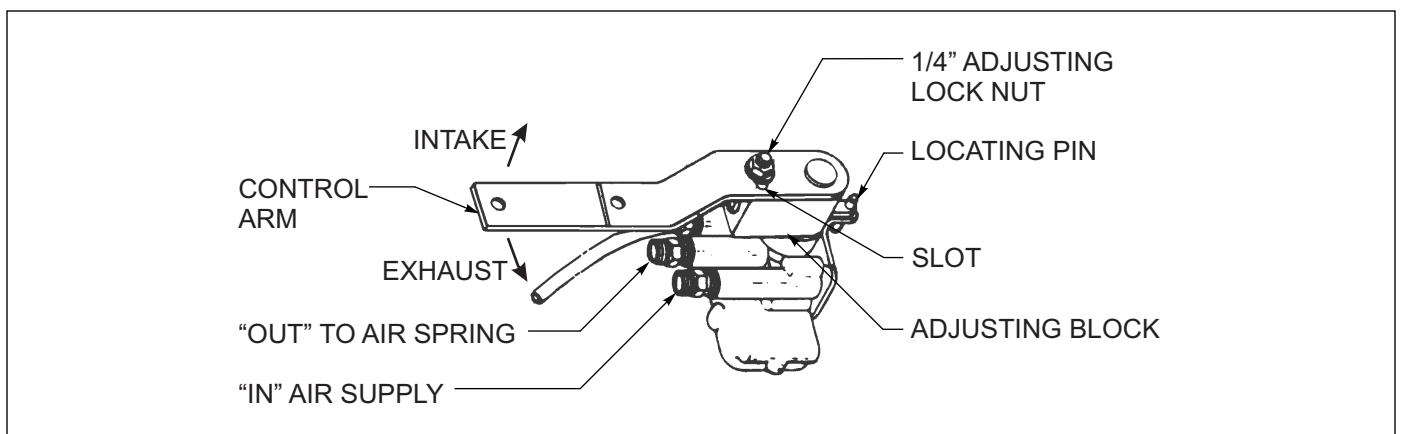

Figure 4-4: Air Ride Height Adjustment
2. Disconnect linkage at the control arm and raise control arm to the "up" position, raising the trailer until a block can be placed between axle tube and undercarriage frame (See Figure 4-4.)
6. Loosen the 1/4" adjusting lock nut located on the adjusting block, allowing the control arm to move approximately 1 inch. Move the adjusting block until holes align, then insert locating pin (See Figure 4-4.)